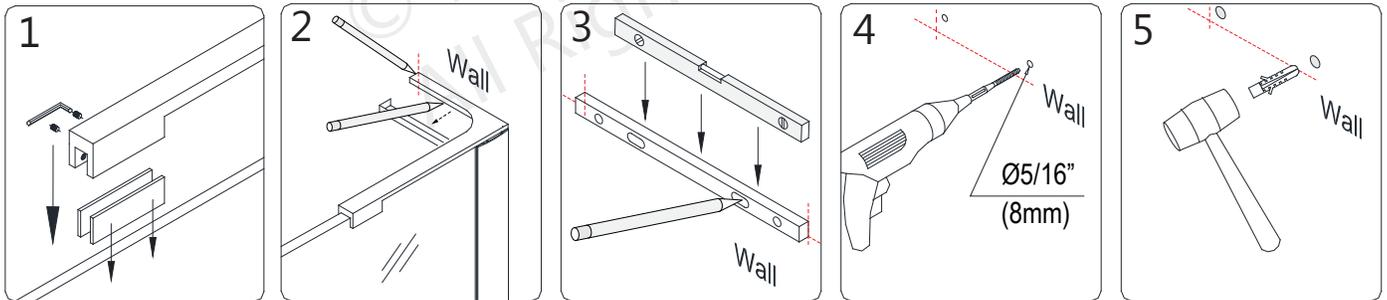

Fig 11
11. Position the **L-Bar™ assembly (#4.3)** onto the **Panel Glass** as shown (**Fig 11.1**). Be sure the gaskets are in place to protect the glass. Make it level and mark the position on the wall. Remove the **Decorative Cover (#4.4)** and **Wall Plate (#4.6)** from the **L-Bar™**. Position the **Wall Plate (#4.6)** on the marks on the wall and adjust for level. Mark the holes for drilling through the wider, untapped holes (**Fig 11.3**). Drill two **Ø5/16" (8mm)** holes and insert the **Ø5/16" Wall Anchors (#4.5)**. (**Fig 11**)